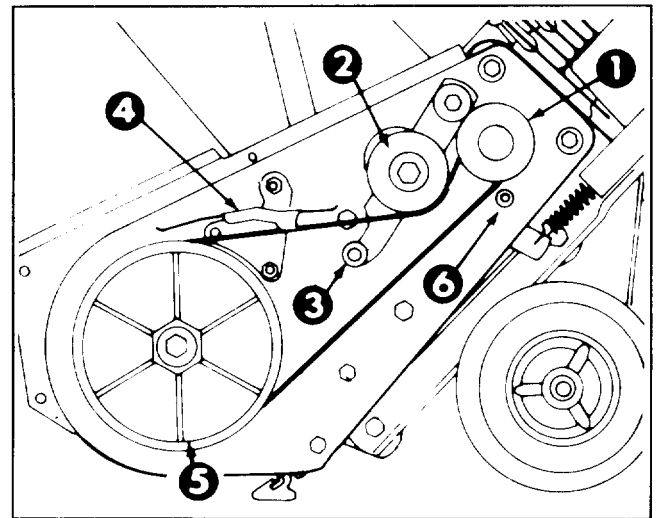

Figure 14
3. REMOVING BELT (Fig. 14)—Push down on idler pulley allowing belt to be removed from rotor pulley, brake arm assembly, and engine pulley.
4. INSTALLING BELT (Fig. 14)—Loop belt around engine pulley, under idler pulley, over roller, through brake assembly, and around rotor pulley.